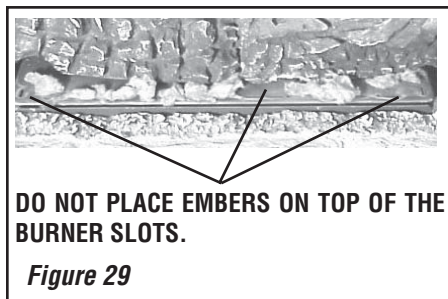

Figure 29
b. Distribute the pieces over the top of the front burner ports avoiding covering the slots (see Figure 29) and filling the area in front of the forward logs.